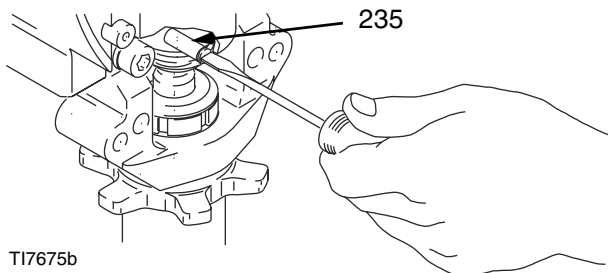

FIG. 16
5. FIG. 16. Use screwdriver: push retaining spring up and push out pin (235).
2. FIG. 16. Push pin (235) into hole. Push retaining spring into groove around connecting rod.